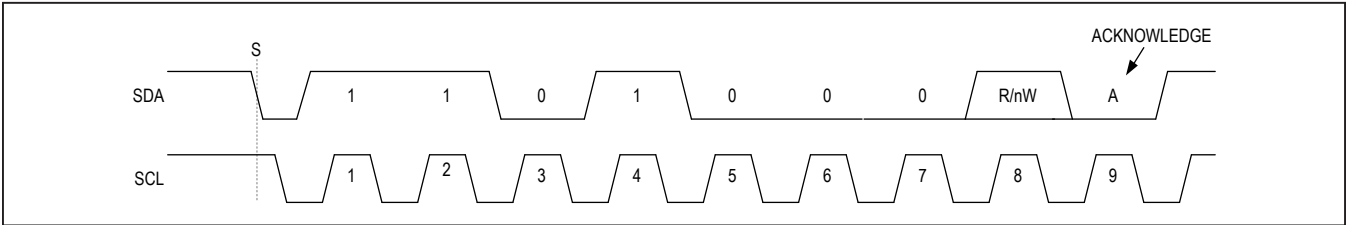

Figure 33. Slave Address Byte Example Using the Power Management Slave Address
Both the I2C bus master and the IC (slave) generate acknowledge bits when receiving data. The acknowledge bit is the last bit of each nine-bit data packet. To generate an acknowledge (A), the receiving device must pull SDA low before the rising edge of the acknowledge-related clock pulse (ninth pulse) and keep it low during the high period of the clock pulse (Figure 33). To generate a not-acknowledge (nA), the receiving device allows SDA to be pulled high before the rising edge of the acknowledge-related clock pulse and leaves it high during the high period of the clock pulse.
Figure 33 is an example of the slave address byte format using the RTCs slave address. As shown, the slave address byte consists of seven address bits and a read/write bit (R/nW). After receiving any of the slave addresses shown in Table 13, the IC issues an acknowledge by pulling SDA low during the ninth clock cycle.